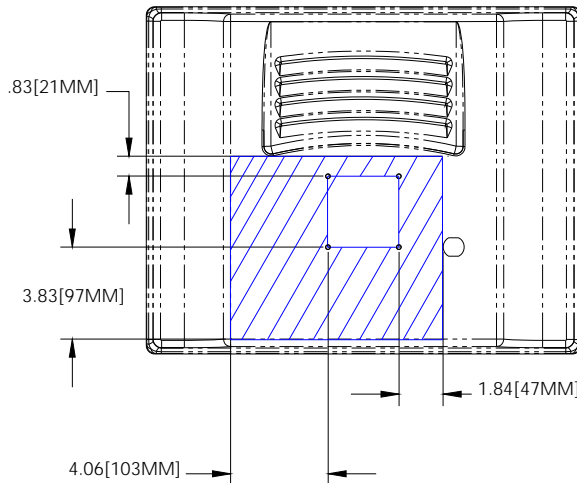

FIG. 52 MB-TP17 Mounting contact surface area
5. Firmly push the Strain Relief Grommet into the opening (toward the inside) until the rim is securely flush against the back of the rear plastic cover (FIG. 52).
7. Note the available mounting contact surface area on the rear plastic cover (FIG. 52). This area represents the space available for use with a VESA connector plate.
9. Align a VESA mount connector (purchased separately) to the four #8-32 screw holes on the back of the rear plastic cover (FIG. 52).